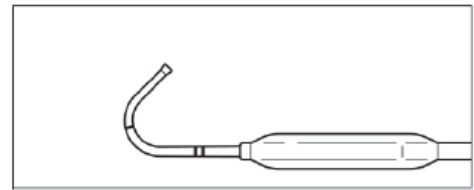

Figure 9: Maxillary Bend
- **Maxillary Sinuses:** When treating the maxillary ostia/ethmoid infundibula, a bend of approximately 120 – 135°(Figure 9) is recommended to gain access to the natural maxillary ostium. Use the included Bending Tool to achieve this geometry.